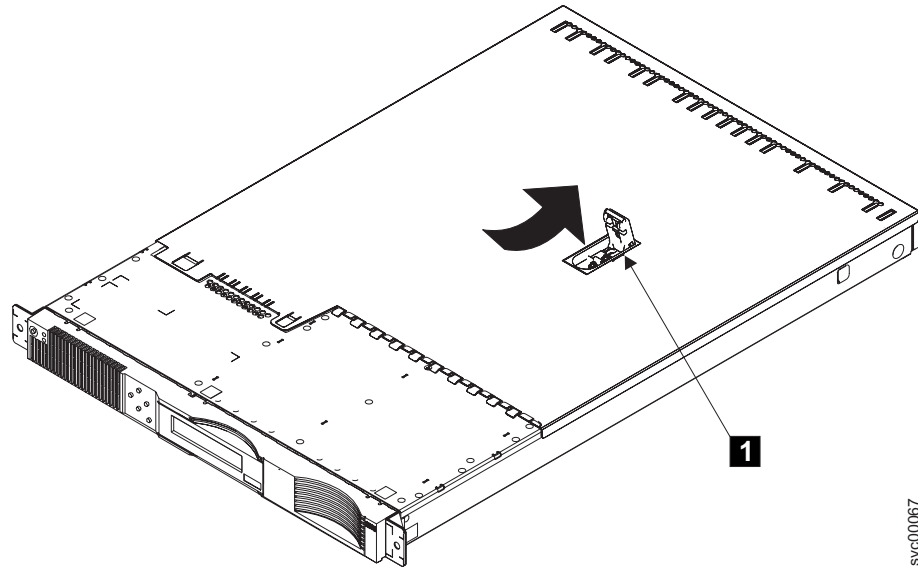

Figure 71. Installing the Top Cover
1. Ensure that the lever **1** is fully up. See Figure 71 on page 289.